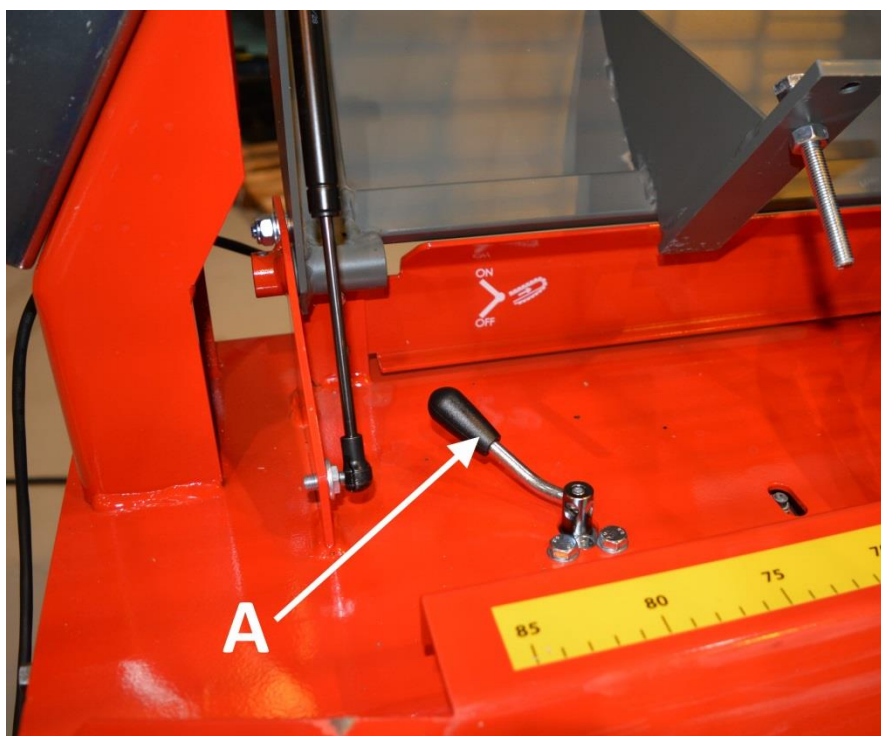
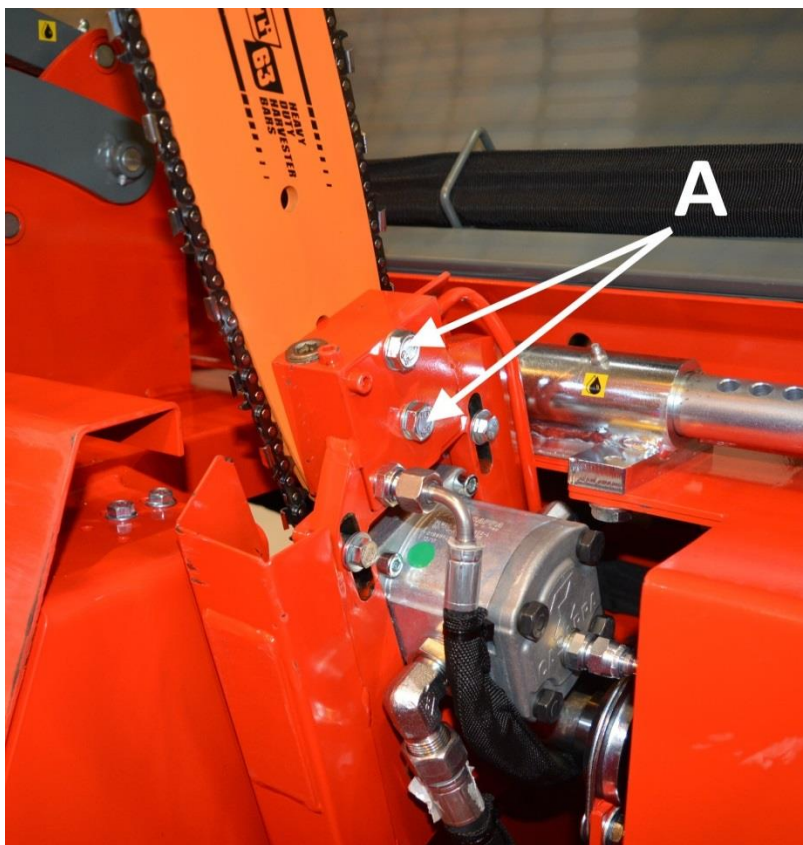

Figure 24.
Figure 25.
2. Turn lever A (Figure 24) to the OFF position to release the pressure in the automatic saw chain tensioner.
5. Turn lever A (Figure 25) to the ON position, as shown in Figure 24.
2. Remove the bar's fastening bolts (A in Figure 25).